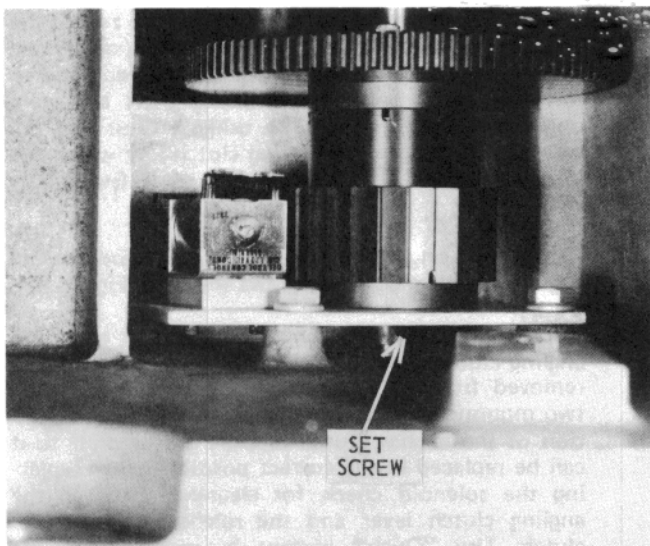

Figure 81 — Set Screw
- 6.1.20 Tighten set screw (see Figure 81). Tighten mounting screws.